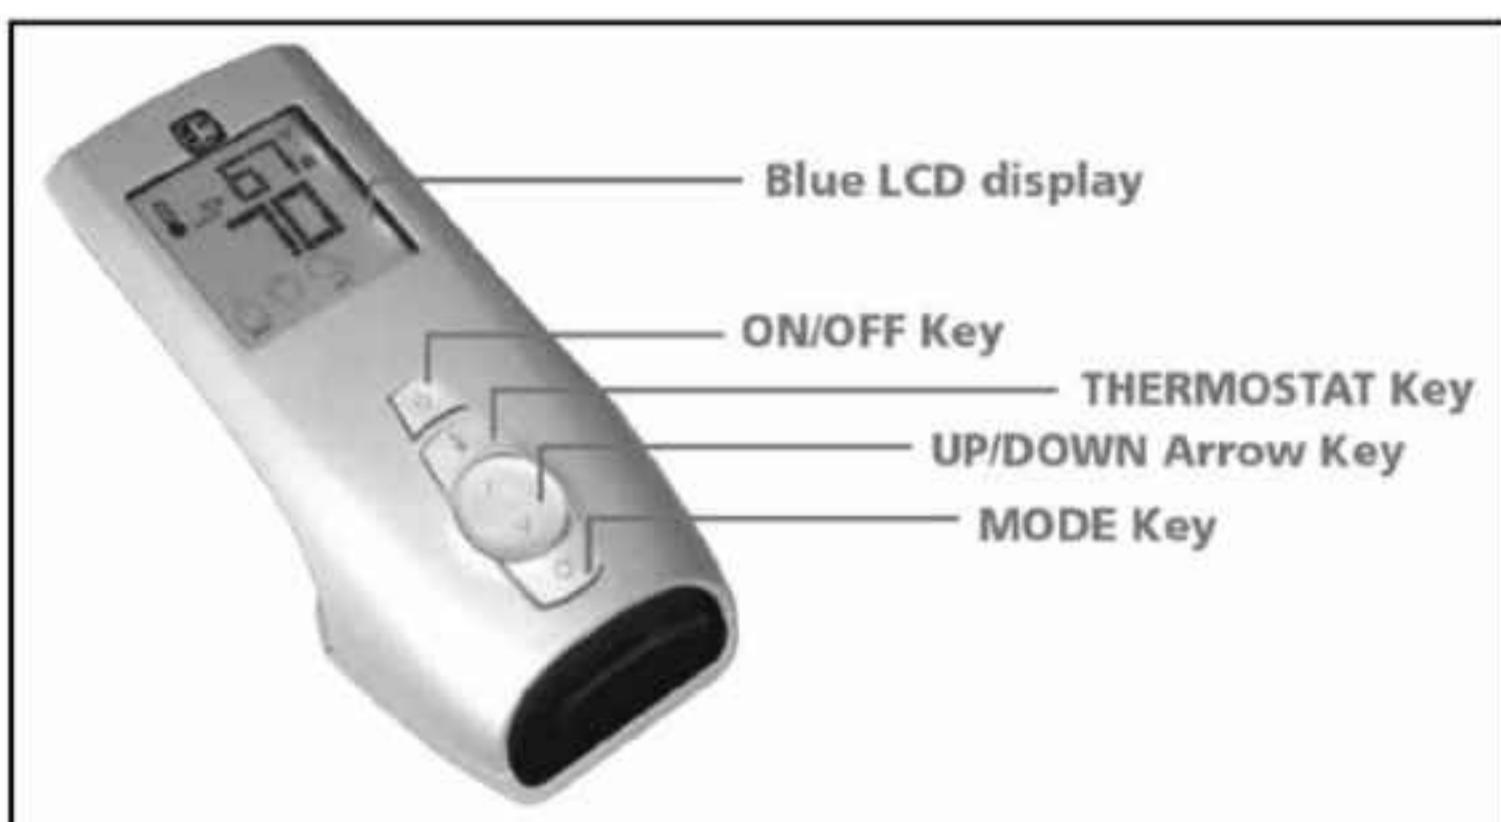

Figure 103: Proflame Transmitter.
The Transmitter is powered by three (3) AAA type batteries. A Mode Key is provided to index between the features and a Thermostat Key is used to turn on/off or index through Thermostat functions (Figure 103 & 104).